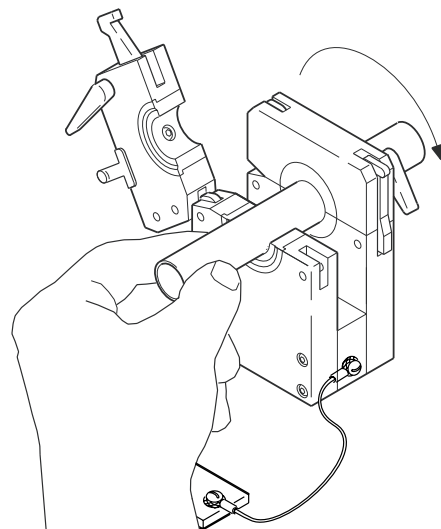

Figure 18 Placing the Tubing
5. Close and lock the side plate that is not adjustable. See Figure 18.